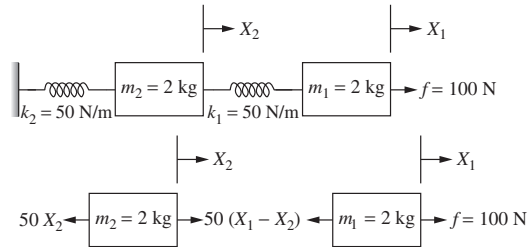

Figure P7.36 Mechanical system for problem P7-36.
- 7-36.** Figure P7.36 shows a system with two-mass elements and two springs. The mass m_1 is pulled with a force $f = 100$ N, and the displacements $X_1(s)$ and $X_2(s)$ of the two masses in the s -domain satisfy the following system of equations: